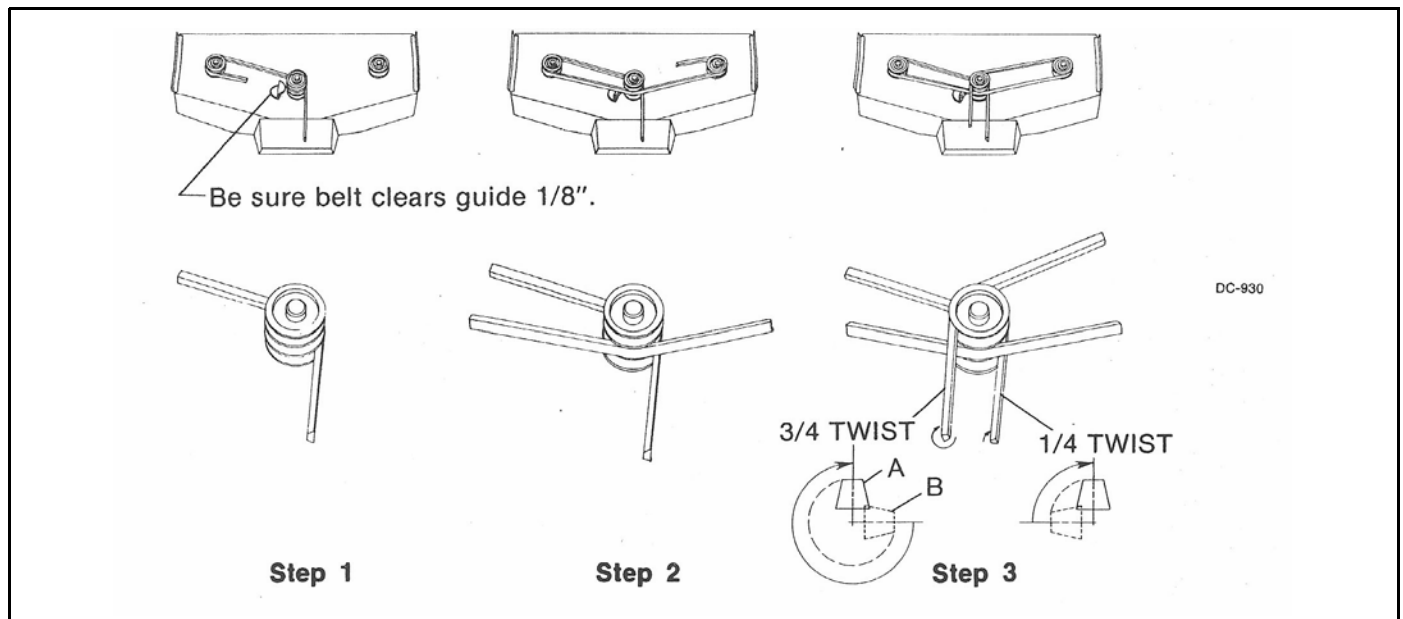

Figure 12. Belt Installation
Step 1: Insert belt in bottom right hand groove of center pulley and route toward take-up assembly. Tip take-up assembly forward and route belt through idler pulleys as shown in Figure 12.